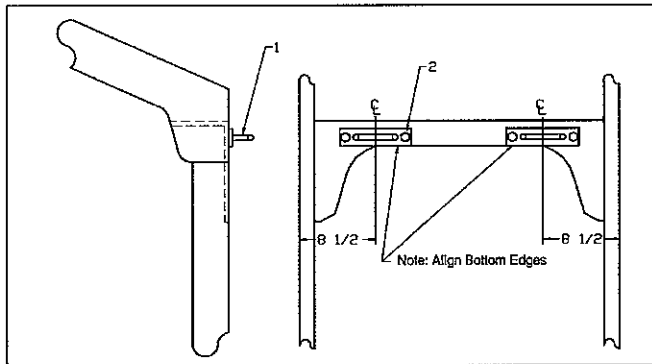

figure 5
1. Mount hook points to the prime mover arms as shown in figure 5.